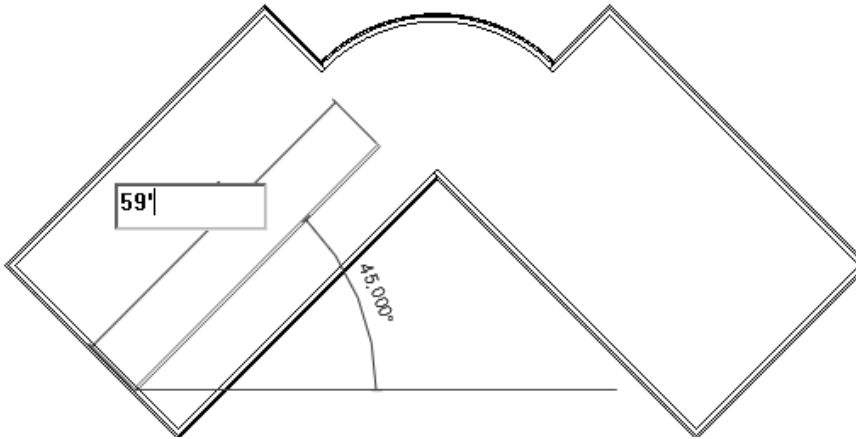

Figure 3-66 Sketching the first interior wall of the Club project
- Move the cursor 45-degree upward to the right. When a dashed line appears, enter the value 59'0", as shown in Figure 3-66 and press ENTER.